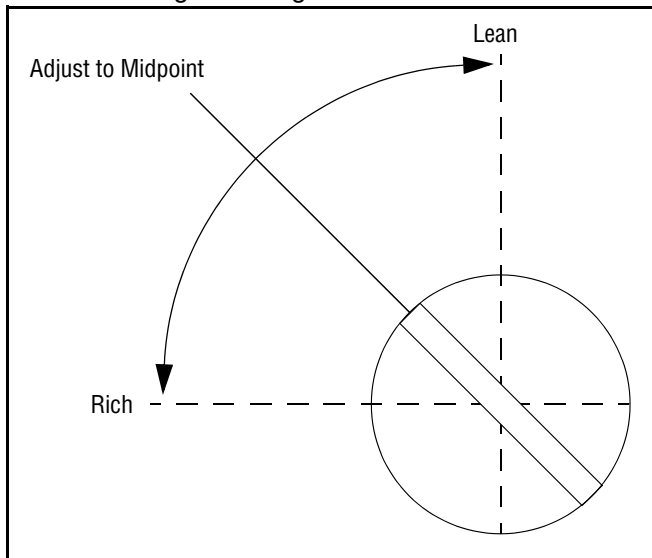

Figure 19
2. **Low Idle Fuel Screw Setting:** Place the throttle into the “idle” or “slow” position. Turn the low idle fuel mixture screw out (counterclockwise) from the preliminary setting until engine speed decreases (rich). Note the position of the screw. Now turn the mixture screw in (clockwise). The engine speed may increase, then it will decrease as the screw is turned in (lean). Note the position of the screw. Set the adjusting screw midway between the rich and lean settings. See Figure 19.